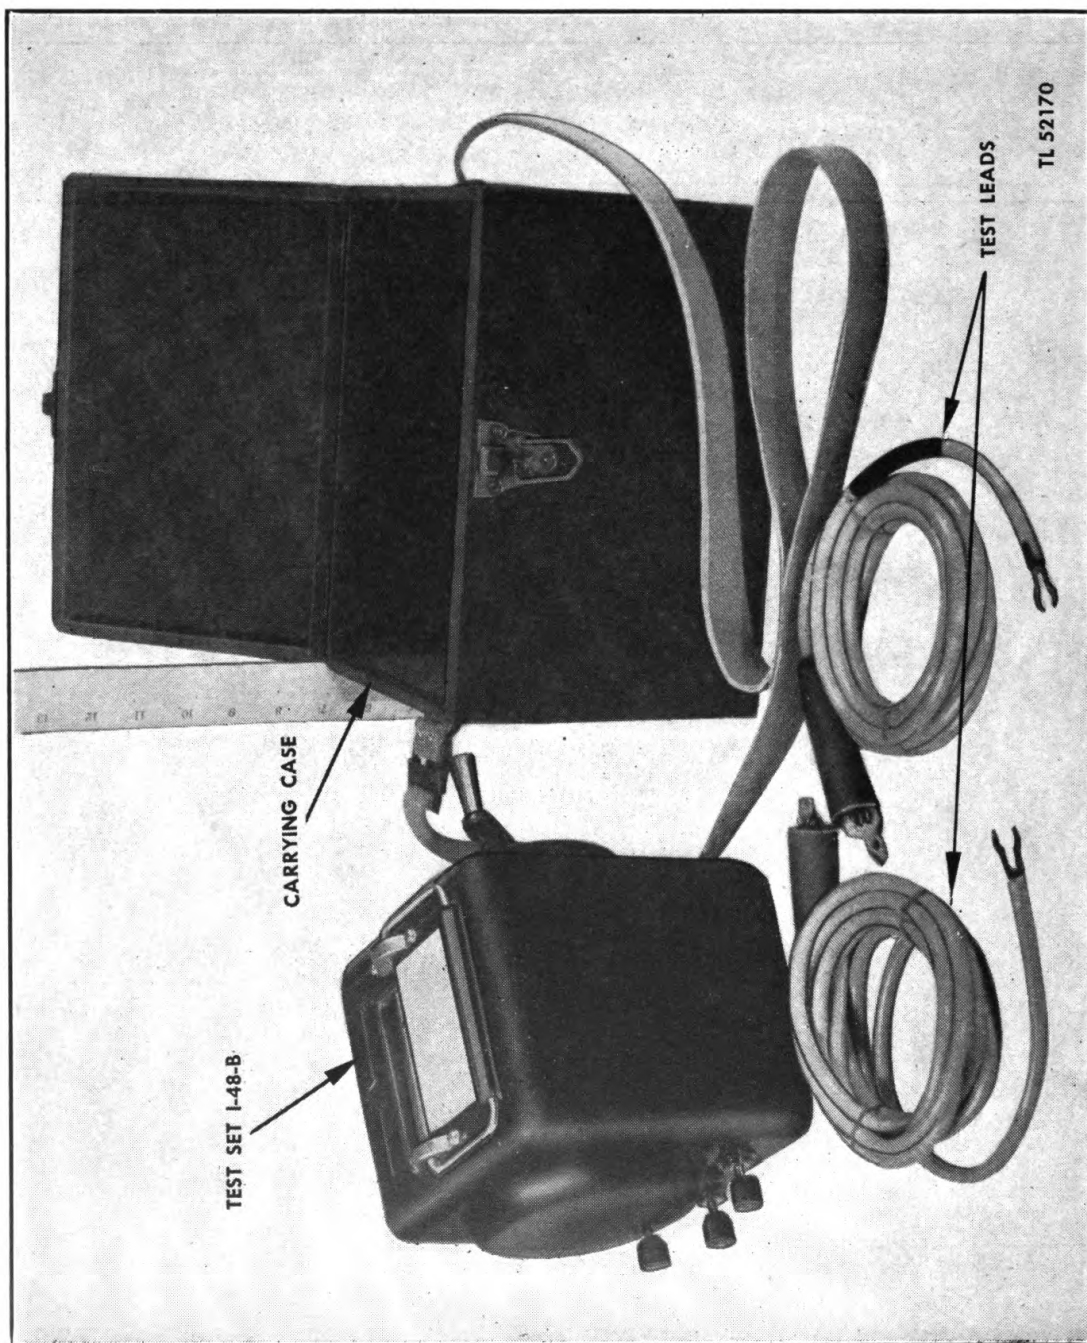

Figure 1. Test Set I-48-B with carrying case and test leads.
b. Test Set I-48-B is designed to be used for checking insulation resistance of cables, between conductors of multiple cables, between windings and windings to ground in transformers, between windings and windings to frame in rotating equipment, and for other equipment where insulation resistance is an important factor. Figures 1 and 2 show different views of Test Set I-48-B.
The two test leads are made of finely stranded and insulated flexible cable, 10 feet in length. One lead is equipped with a positive battery clip protected by a red battery clip cover on one end and a spade terminal protected by 1½ inches of red insulated sleeving on the other end. The other lead is equipped with a negative battery clip protected by a black battery clip cover on one end and a spade terminal protected by 1½ inches of black insulated sleeving on the other end (fig. 1).